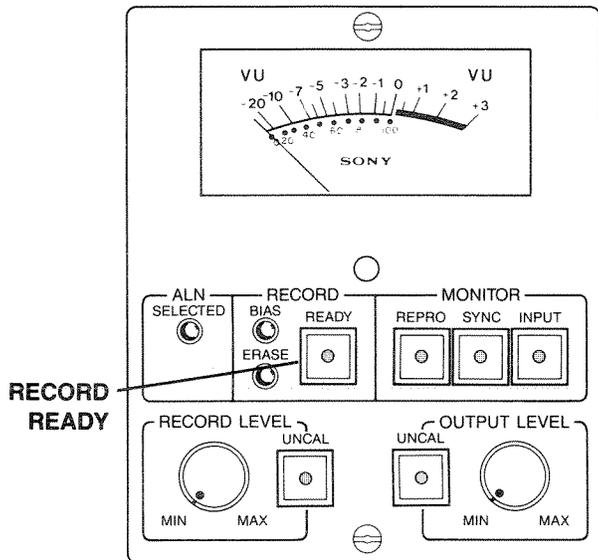

Figure 5-5. Meter Housing — Recording Preparations
- STEP 3** Set the desired channels to RECORD READY by pressing the appropriate Record **READY** buttons. (See Figure 5-5).